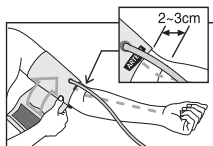

Fig.8
3. Wrap the cuff around your upper arm so that the bottom of the cuff is approximately 2-3 cm above your elbow. The sign "ARTERY" should be over the arm artery (fig. 8).